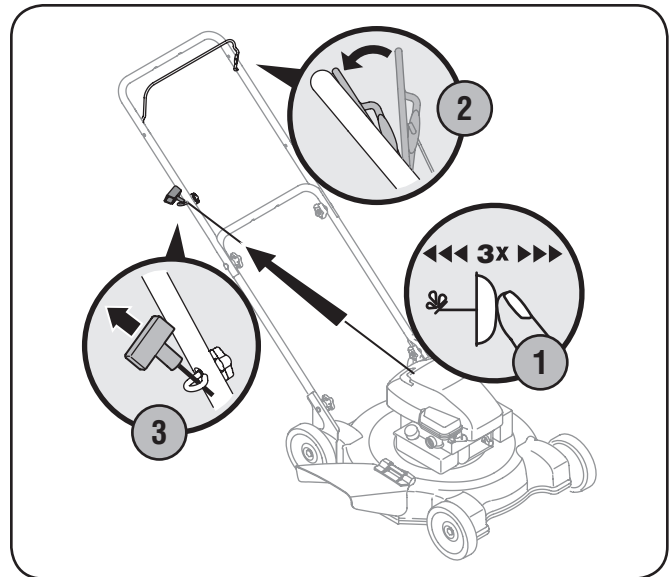

Figure 5-1
2. Standing behind the unit, depress the blade control handle and hold it against the upper handle as shown in Figure 5-1.